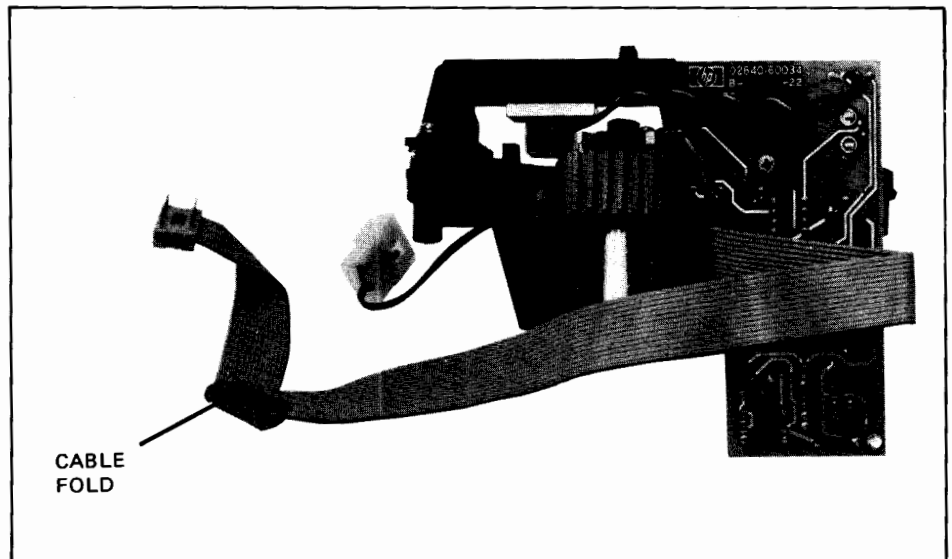

Figure 2-25. Unit 1 Cable Fold
14. Fold ribbon cable attached to remaining CTU Transport Assembly (UNIT 1) as shown in figure 2-25.